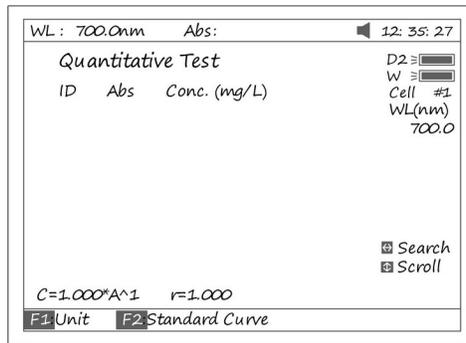
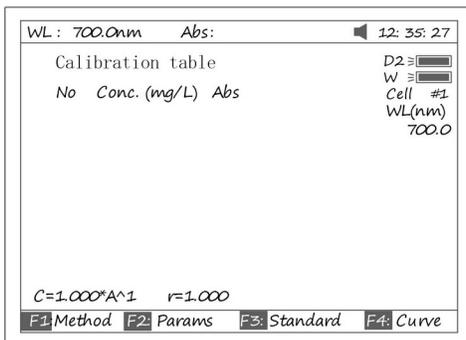
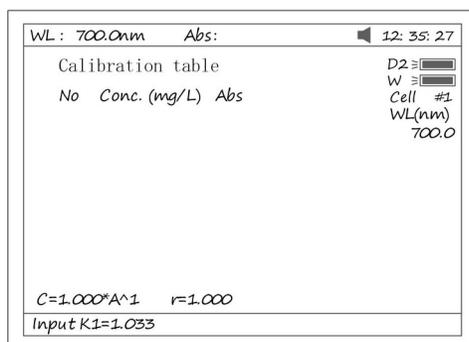
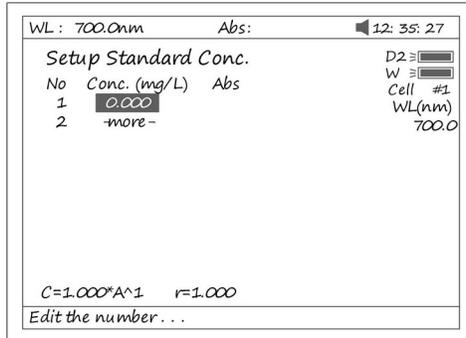

Fig 26
Fig 29
Fig 29A
Fig 30
Press [2] in Main Menu for “Quantitative” Test (Fig 26). Press [ESC/STOP] to exit.
Note: .If no automatic changer installed “cell #1” will disappear in Fig26.
Press [F2] in Fig 26 for more items to select .See Fig 29.
3.1 Press [F1] in Fig 29 to select fitting method. There are 4 methods for you to choose: Linear fit, linear fit through zero, square fit and cubic fit.
3.2 Press [F2] in Fig 29 to enter directly a known standard curve.Fig29A.
3.3 Press [F3] in Fig 29 to establish a standard curve by measuring a group of standard samples. See Fig 30.
b) Known standard curve, which is not saved in the instrument. See 3.2. For Fig 29 enter a known standard curve directly.
Note: All sample results must be taken in screen Fig26.